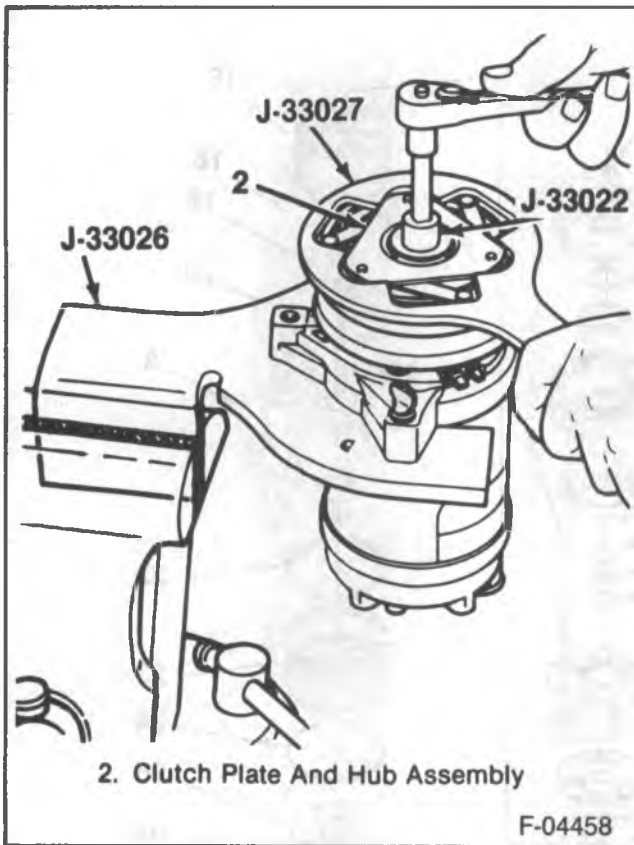
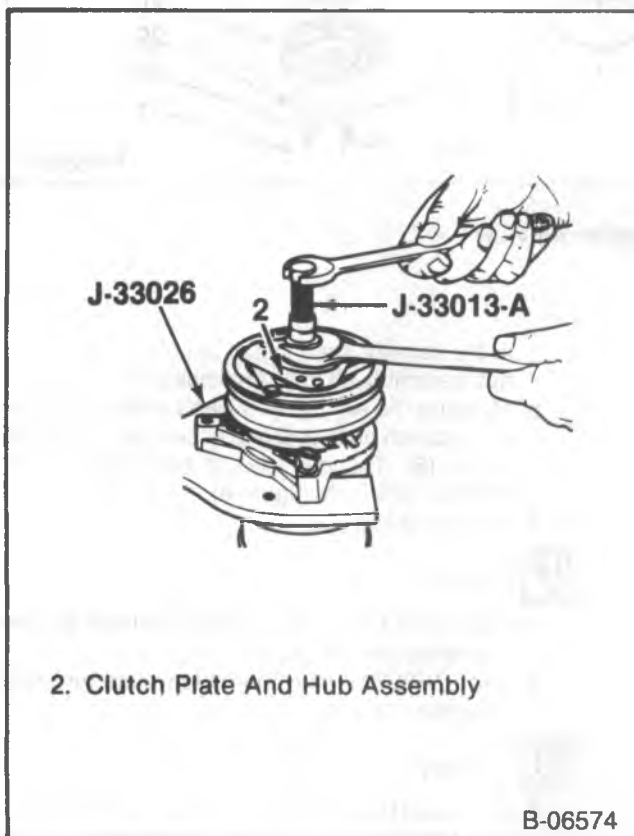

Figure 5 — Removing the Shaft Nut
Figure 6 — Removing the Clutch Plate and Hub Assembly
- Clamp J 33026 in a vise and attach the compressor to the holding fixture with thumb screws (figure 5).
1. Shaft nut (1) using J 33022 (figure 5).
- Hold the clutch plate and hub assembly (2) steady using J 33027.
2. Clutch plate and hub assembly (2).
- Thread J 33013-B into the clutch plate and hub assembly (2).
- Hold the body of J 33013-B with a wrench and tighten the center screw into the remover body (figure 6).
3. Shaft key (21).
- Retain the shaft key (21) if usable.